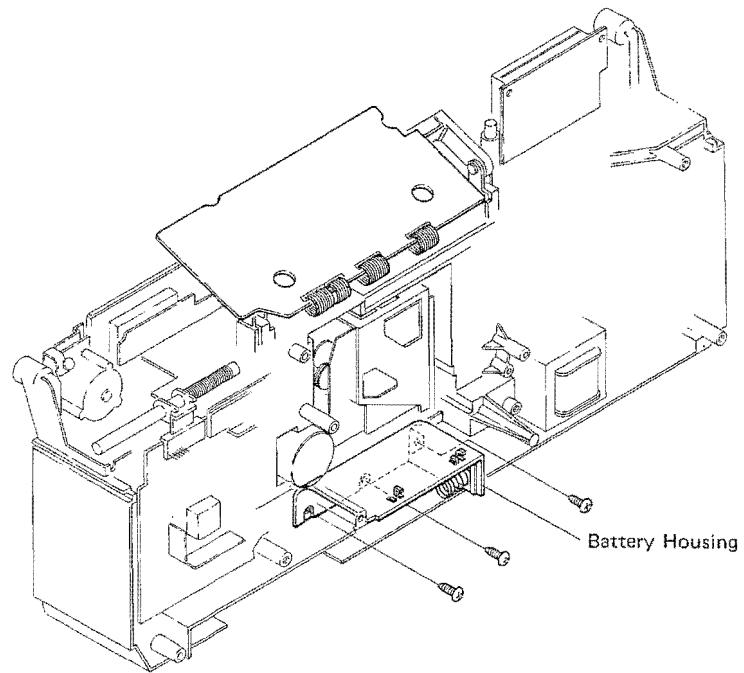

Fig. 39
6. Remove the three screws, and remove the battery housing (Fig. 39).